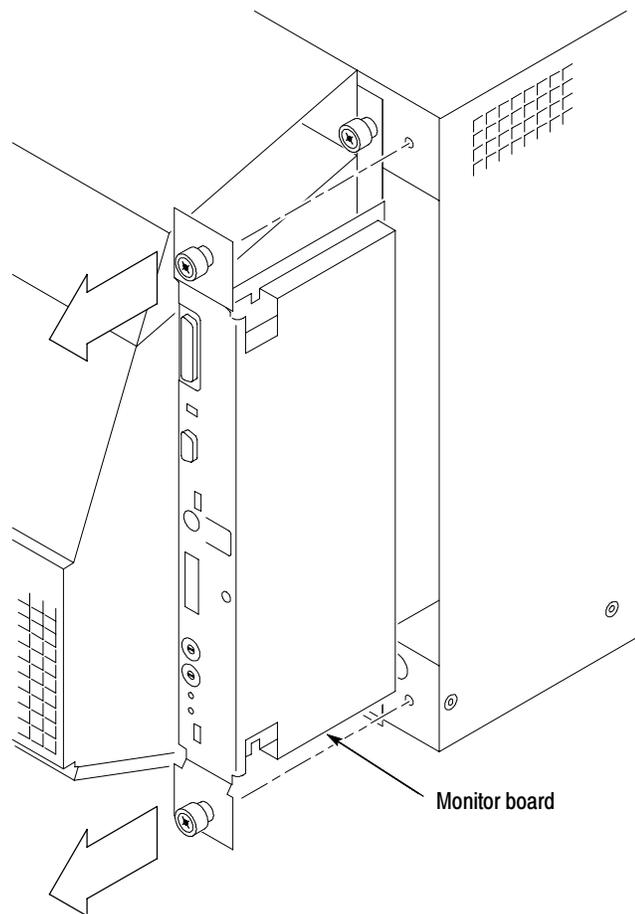

Figure 12: Removing the enhanced monitor board
4. Slide the enhanced monitor board out of the mainframe as shown in Figure 12.
2. Slide the enhanced monitor board into the mainframe as shown in Figure 12. You may have to adjust the enhanced monitor board to engage the connectors on the rear of the board.